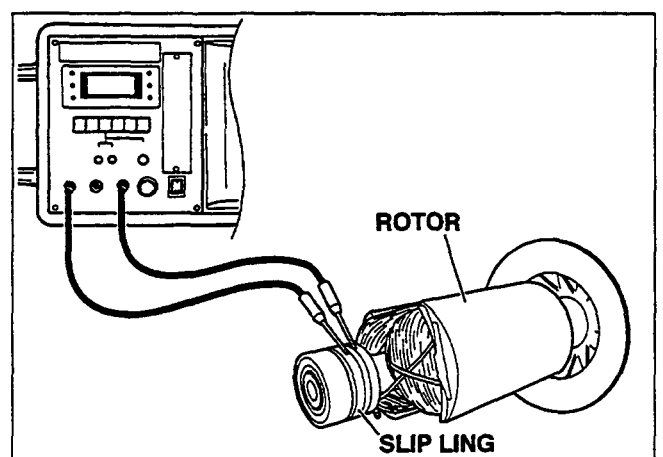

Fig. 11-3
- (3) Check the insulation resistance between stator core and each stator lead using a Dr. Robin generator tester in megger tester mode or a megger tester. (Fig. 11-3) If insulation is bad, replace stator with a new one.